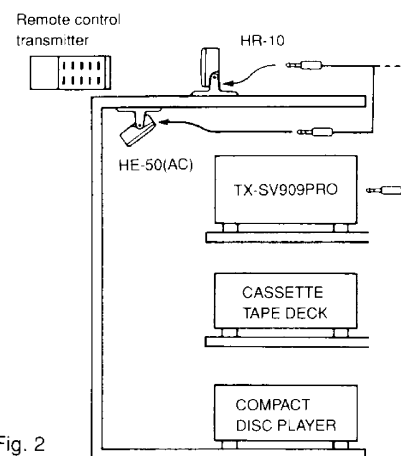

Fig. 2
- To enable remote control operation when the TX-SV909PRO is mounted in a rack which will not permit infra-red beams to pass, place the HR-10 somewhere outside the rack and set the HE-50(AC) in a position which will permit remote control operation of the TX-SV909PRO. The HE-50(AC) is not necessary when utilizing the ONKYO set with the **RI** mark. Please connect the HR-10 and TX-SV909PRO. (see Fig.2)